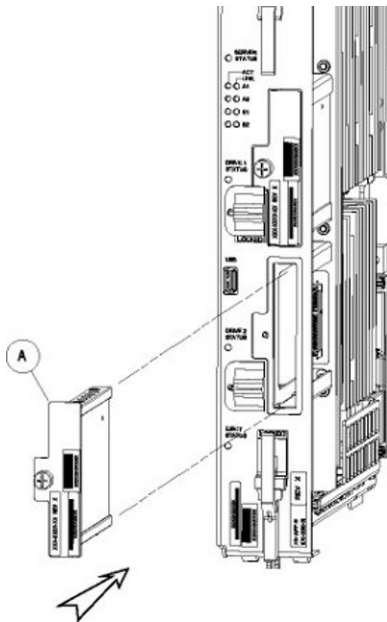

Figure 55: Drive Module Replacement
1. Slide a new drive(s) module into the drive slot on the card (see Figure 55: Drive Module Replacement).